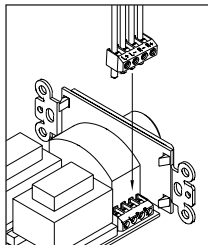

Figure 5
4. Plug the connectors into the VCS-2D-HP as shown in (Figure 5)